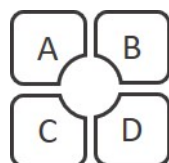

Figure 8. Location and numbering of injection ports on Agilent Seahorse XF sensor cartridges.
- 4 Load 25 μL of compound to each injection port, according to **Table 7**. For the location of the ports, refer to **Figure 8**.